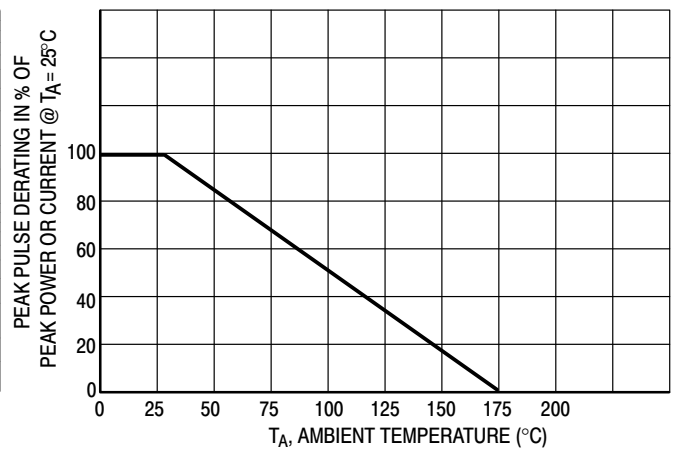
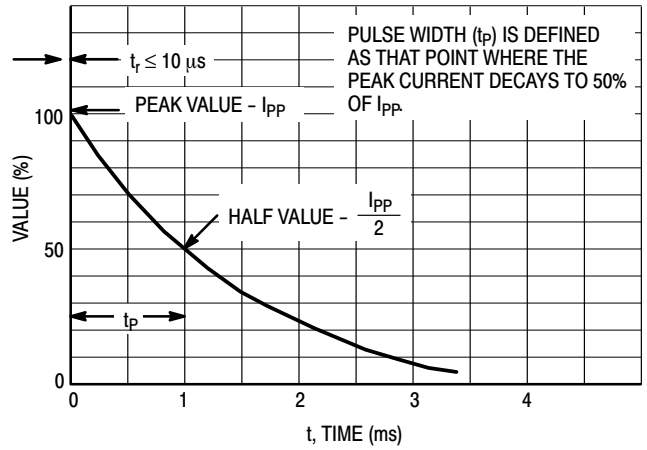

Figure 2. Pulse Derating Curve
Figure 4. Pulse Waveform
1. Nonrepetitive current pulse per Figure 4 and derated above  $T_A = 25^\circ\text{C}$  per Figure 2.
7. Surge current waveform per Figure 4 and derate per Figure 2 of the General Data - 1500 W at the beginning of this group